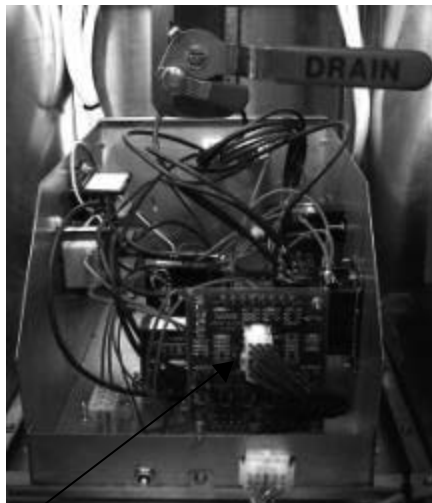

Fig: 10-7
5. Remove the nuts from each corner of the interface board and slide the board from the studs. **Fig: 10-7**